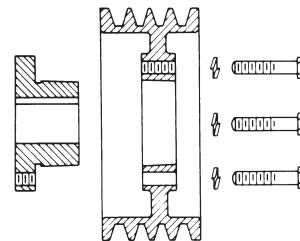

FIG. 1
2. Select the type of mounting (See Fig. 1 or 2) that best suits your application.